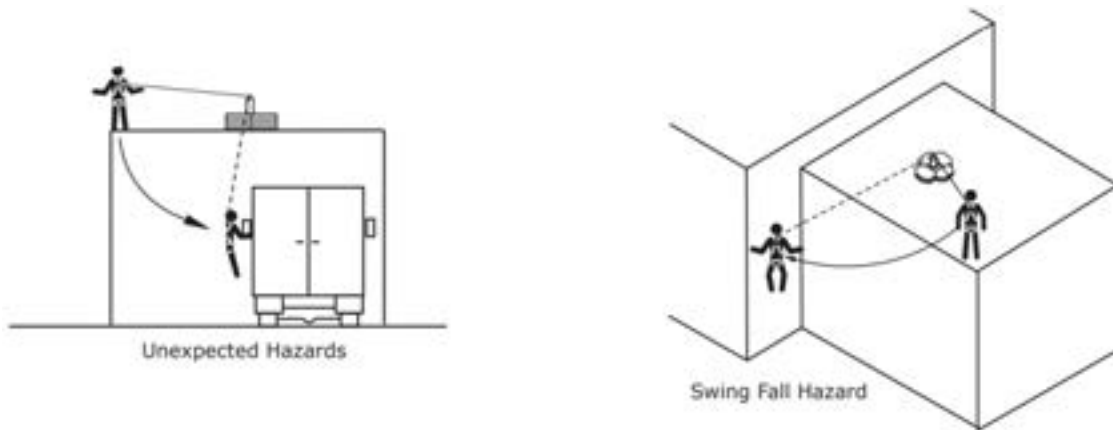

Figure 2
- e. Swing falls occur when the anchorage point is not directly above the point where a fall occurs. The force of striking an object while swinging (horizontal speed of the user due to the pendulum affect) can be great and may cause serious injury. Swing falls can be minimized by working as close to the anchorage point as possible. In a swing fall situation, the total vertical fall distance of the user will be greater than if the user had fallen vertically directly below the anchorage point. The user must therefore account for an increase in the total free fall distance and the area needed to safely arrest the fall. See Figure 2